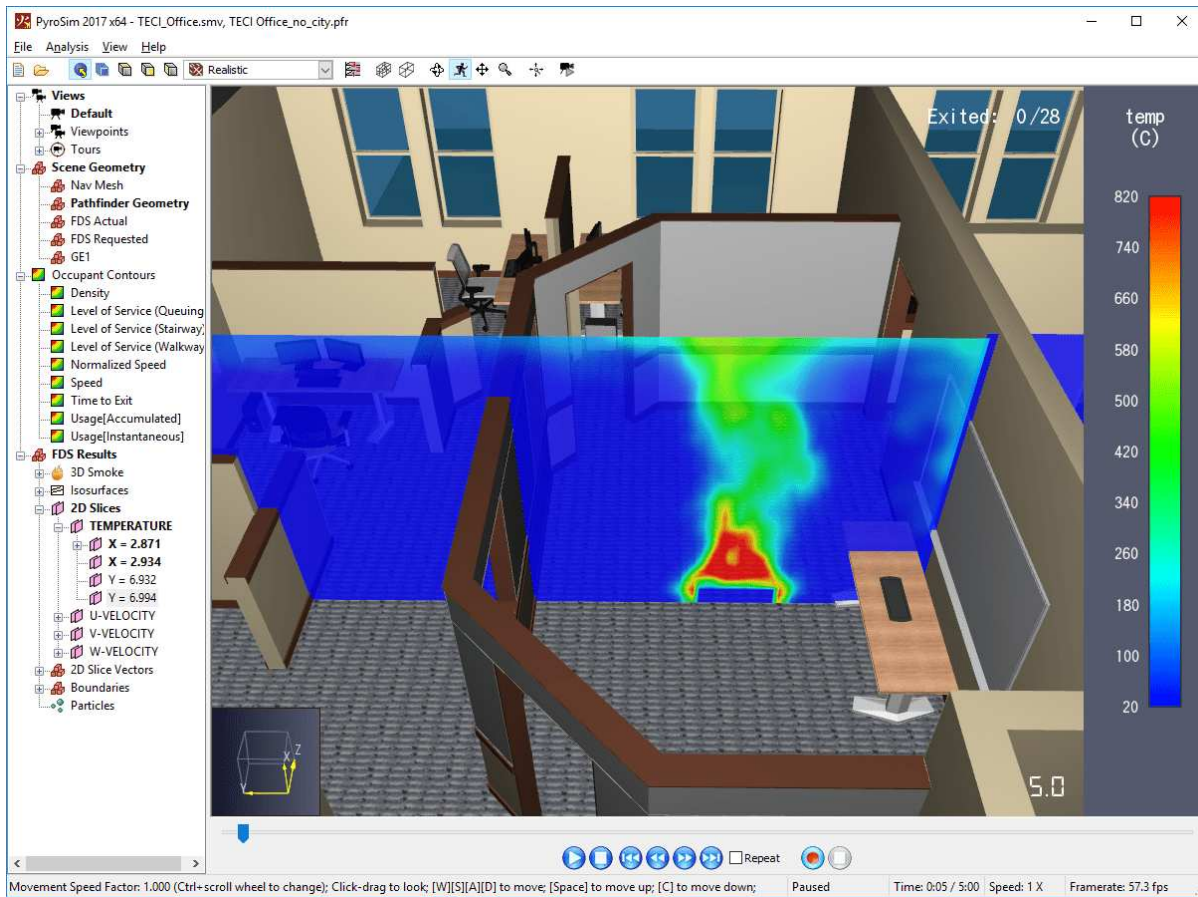

Figure 57. Results colorbar
- If necessary, a colorbar is added to the right side of the main window as shown in Figure 57. The colorbar can be edited as described in Section 6.3.
Nearly all FDS and Pathfinder results data are colored with a colormap (exceptions include 3D Smoke, Particles viewed with the **Default** coloring, and some occupant coloring options). A colormap provides a way to map data values to a color that can be displayed on the screen. When a colormap is in use, it will be shown as a colorbar on the right side of the 3D View as shown in Figure 57. If both FDS Results and Pathfinder occupant contours are displayed at the same time, there may be multiple colorbars displayed at once.
The colorbar shows the colormap as well as which data values are mapped to the colors. At the top, it also shows an abbreviation of the quantity and the quantity's unit in parentheses. In Figure 57, the label "temp" corresponds with the quantity, **TEMPERATURE**, and the unit is **C** for degrees Celsius.